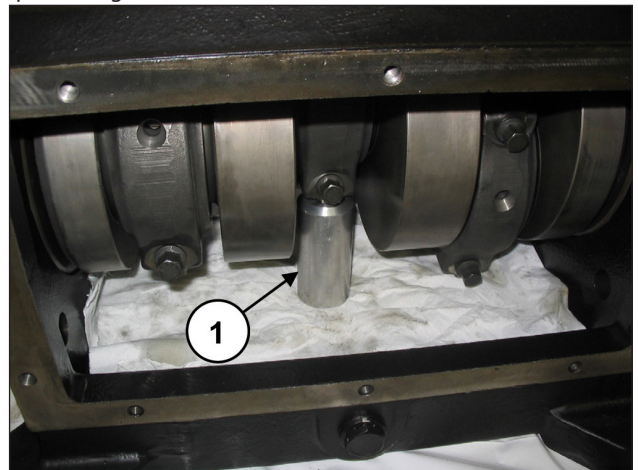

Fig. 16
Insert a shim under the con-rod to block shaft rotation (pos. ①, Fig. 16).